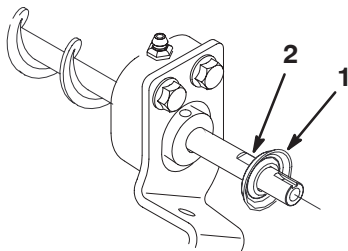

Figure 11
20. Press excluded seal onto roller brush shaft until it is aligned with the outer edges of slots (Fig. 11). Seal to be positioned with lip toward end of shaft. Apply a film of grease onto lip of seal.